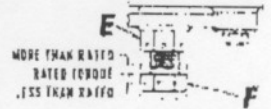

Fig. 3
Torque is increased by loosening lock nut (E in Fig. 3) and turning Torque Adjusting Screw (F) clockwise. Torque is decreased by turning screw counterclockwise.